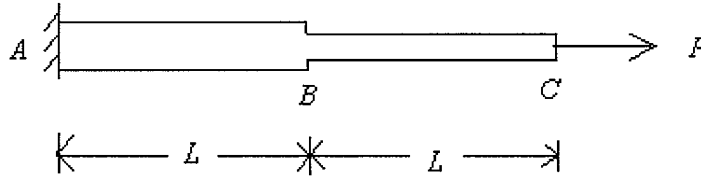

Fig. 1
- (1) Consider a two-section bar as shown in Fig. 1, in which the left hand side of the bar is clamped, and the right hand side is subjected to a concentrate load P. The strong form of this problem is given as follows: